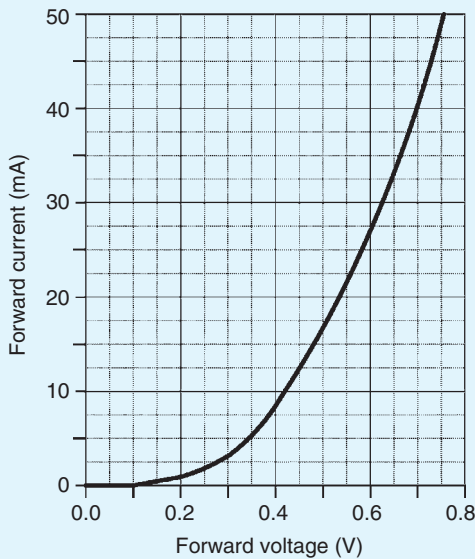

Figure 11.13
11. The graph shown in Fig. 11.13 was obtained during an experiment on a diode. (a) What type of diode is this? Give reasons. (b) Determine the forward current for a forward voltage of 0.5 V. (c) Determine the forward voltage for a forward current of 30 mA. (d) Determine the resistance of the diode when the forward voltage is 0.4 V.